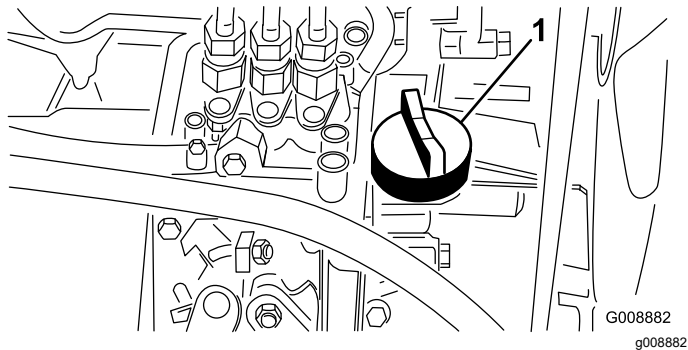

Figure 53
4. If the oil level is low, remove the oil-fill cap (Figure 53) and gradually add small quantities of oil, checking the level frequently, until the level reaches the Full mark on the dipstick.